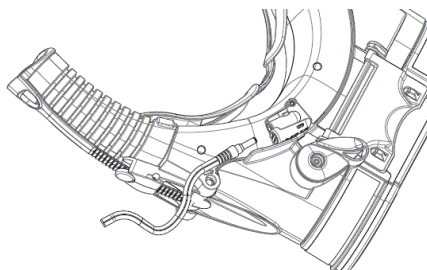

Figure 21 - Charging Port
- To charge the internal battery, turn the respirator upside down, and locate the charging port. See Figure 21.